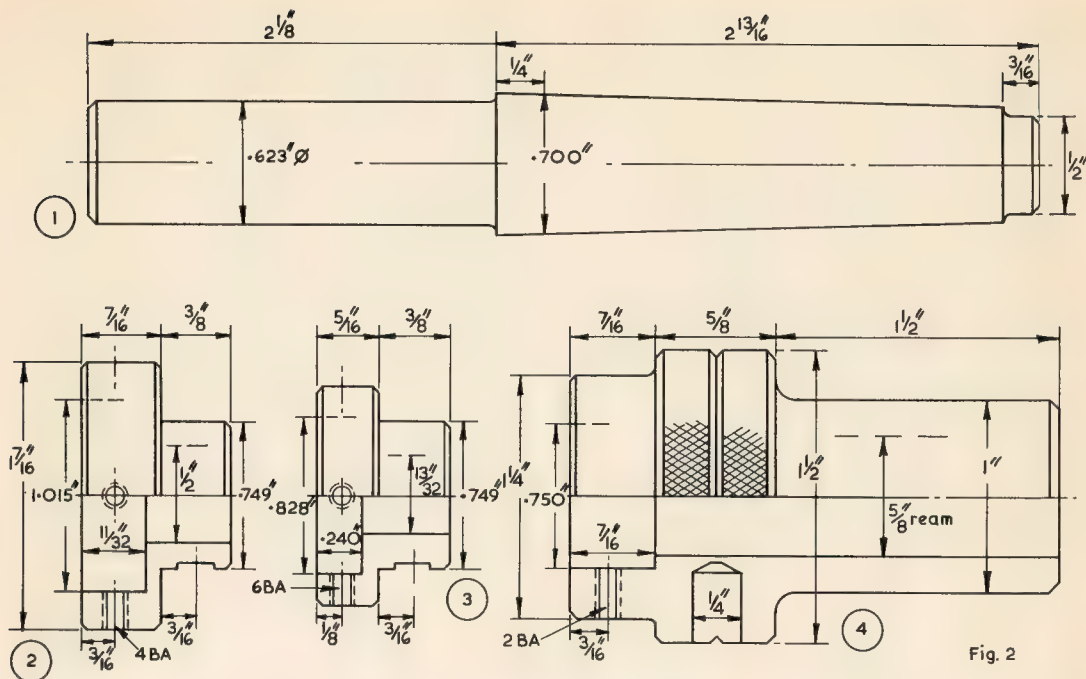

Fig. 2
The advantages gained from having all the BA dies pre-set and ready for immediate use were so great that it was decided to mount most of the other dies in individual holders and to make sliding carriers of appropriate sizes for the 13/16 in. and 1 in. dies. Fully dimensioned drawings of these are given in Fig. 2 and 3 and the complete outfits are shown housed in their sliding tray which fits into a drawer in the workshop. Some workers might, quite reasonably, feel that the two different holders are unnecessary and for these I have shown, in Fig. 2, individual mountings for both 13/16 in. and 1 in. dies (items 3 and 2 respectively) to fit the smaller of the two holders. So far as the small BA sizes are concerned, however, I would strongly recommend the outfit shown in Fig. 1.